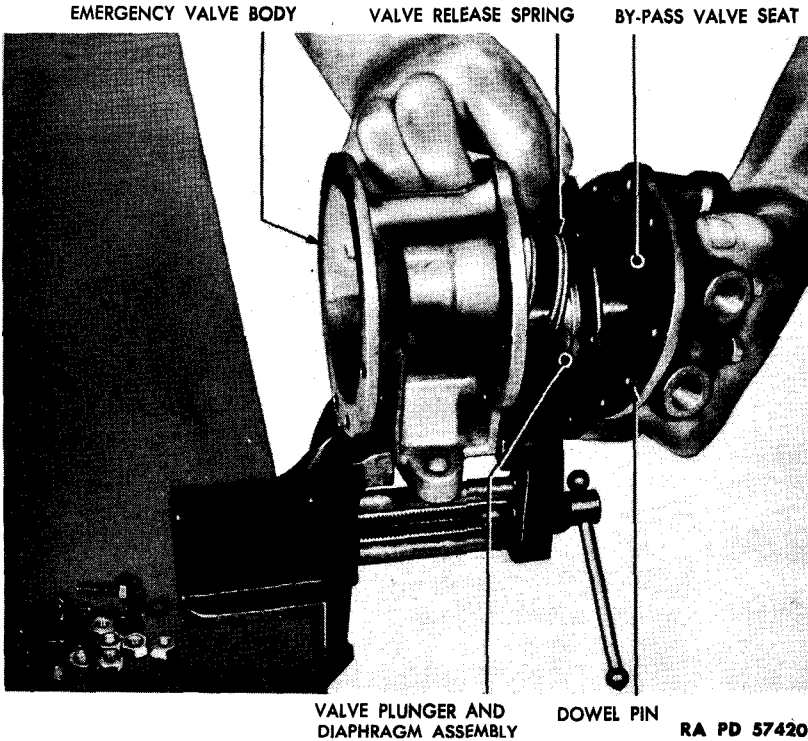

Figure 8 — Removing Valve Body and Valve Plunger Assembly
b. Remove Valve Body and Valve Plunger Assembly (fig. 8). Remove six cap screws, six lock washers, and six nuts holding emergency valve body to lower valve body. Pry emergency valve body and lower valve body apart. Lift out valve release spring, dowel pin, valve plunger and diaphragm assembly from emergency valve body. **CAUTION:** *When prying emergency valve body from valve body, use care not to puncture relay valve diaphragm.*
b. **Disassembly** (figs. 8 and 9). Place valve plunger in vise. Do not permit vise jaws to contact small diameter of plunger; clamp on at the 1 1/2-inch diameter. Remove valve plunger nut. Lift off diaphragm plate and relay valve diaphragm.
b. **Install Valve Body** (figs. 8 and 11). Place emergency valve body assembly in vise. Install dowel pin in hole provided in valve body flange. Place valve release spring over embossed section of emergency valve body. Place valve plunger and diaphragm assembly in emergency valve body, making certain the long end is placed through seal. Secure valve body to emergency valve body, using six cap screws, nuts, and lock washers.